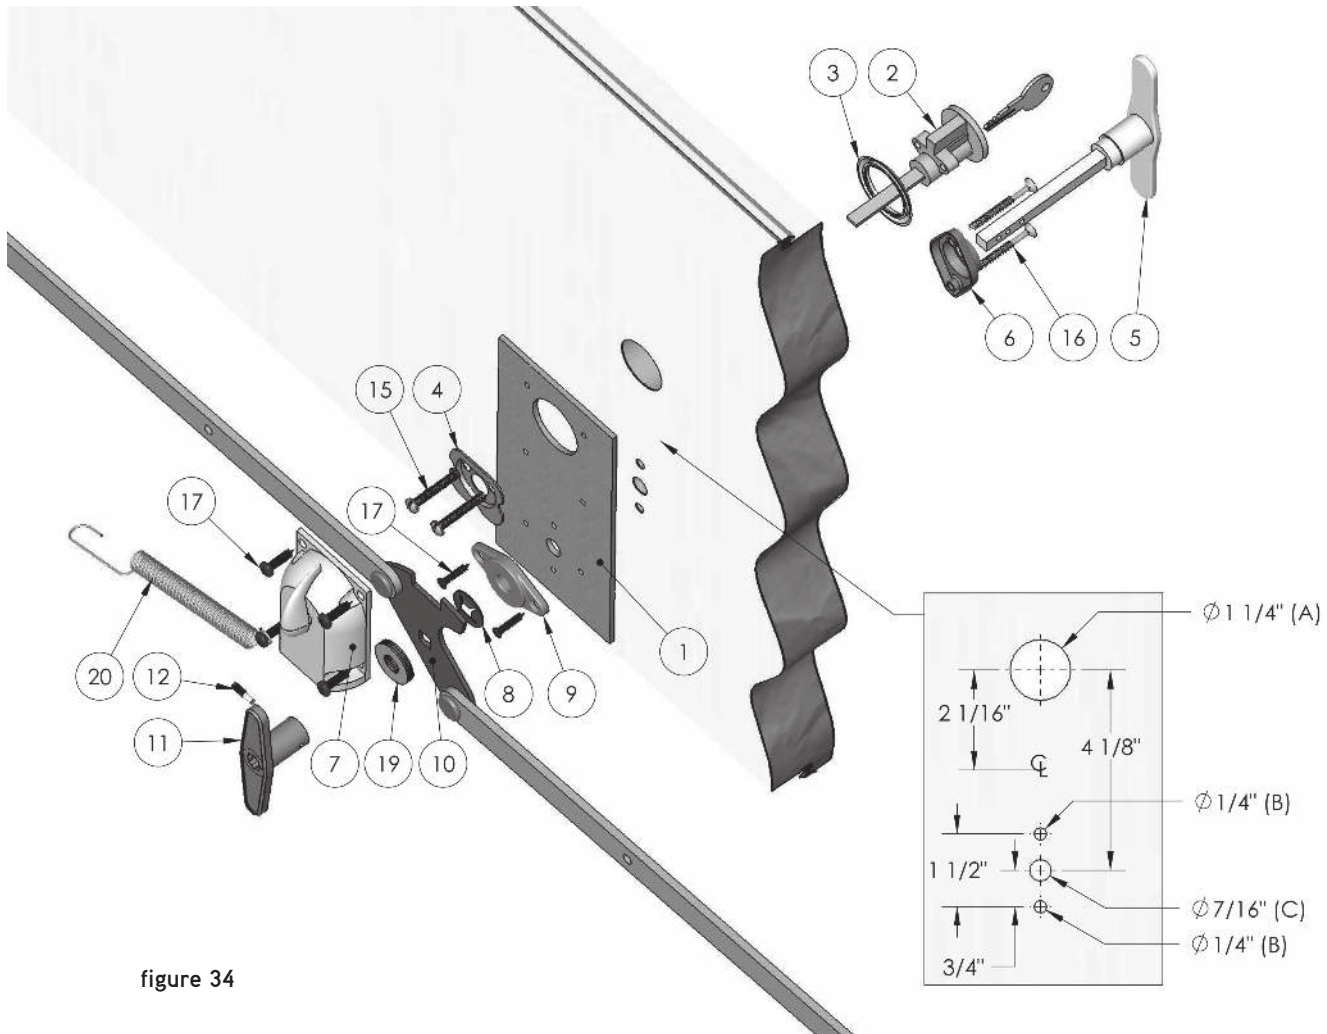

figure 34
2. Using figure 34 as a reference, mark the location of the four holes on the panel for A (barrel), B (screws) and C (handle);
4. Slide the exterior barrel (2) and trim ring (3) into hole (A). (The teeth of the key must be facing up and the key hole must be at the bottom of the barrel);
5. Position the steel plate (1) on the inside of the panel;
6. From the inside of the panel, insert plate (4) in hole (A) by positioning the round part downwards;
7. Insert 10 x 1 $\frac{1}{2}$ " screws (15) in plate (4), align the screws in the holes of the outside barrel (2) and tighten the screws (make sure the plate is well aligned);
8. Insert the inside lock (7) in the shaft of the outside barrel (2) and fasten it to the steel plate (1) with four $\frac{3}{8}$ " screws (17) using a square head screw driver; Be sure to insert the bottom left screw in the round end of the return spring (20) before installing;
9. From the inside of the panel secure the plate (9) over hole (C) with two $\frac{3}{8}$ " screws (17);
10. Insert outside handle (5) in trim plate (6) and insert through hole (C);
11. Insert both 2 ¼" screws (16) through holes (B), align them in the steel plate holes and tighten;